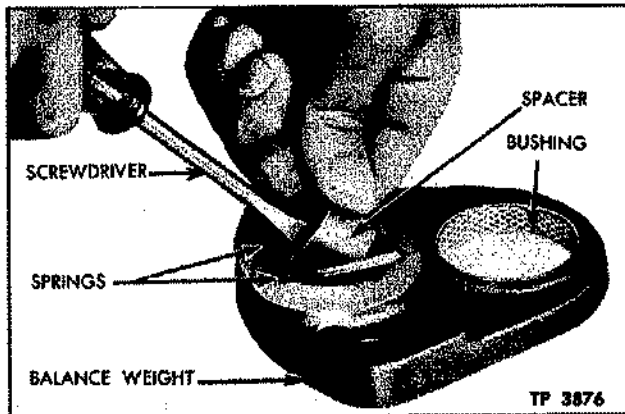

Figure 65—Installing Spring Spacer Between Spring Pack (Early 6-cyl.)
6. Place spacer on blade of screwdriver. Enter spring spacer, tapered end first, between spring packs. As spacer becomes fully enclosed, tilt spacer into upright position, bolt hole up. Press spacer into place in balance weight (fig. 65).